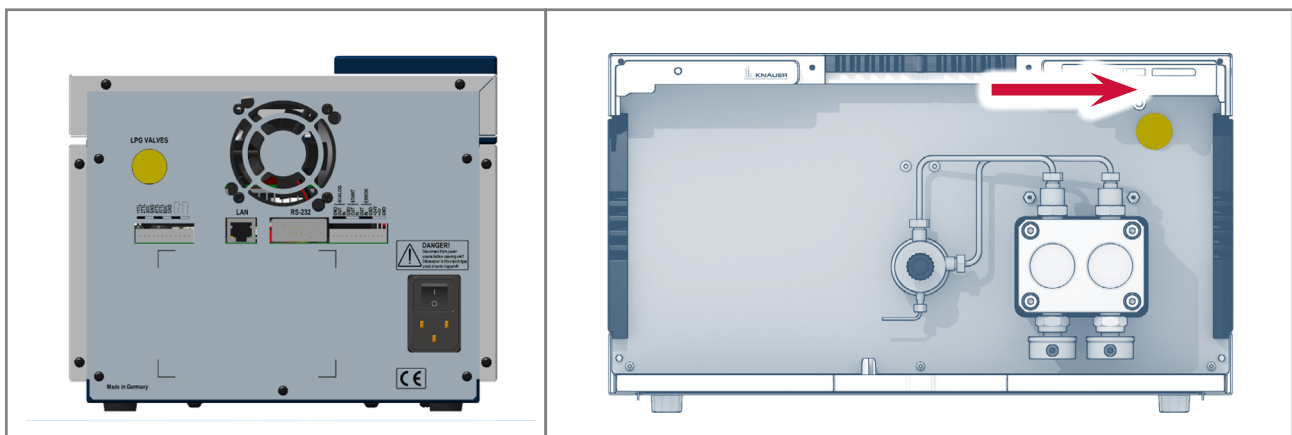

Fig. 1: LPG valve block protection cap on Blueshadow 80P (left) and AZURA® Pump P 2.1L (right)
2. Remove the yellow protection cap (see Fig. 1).